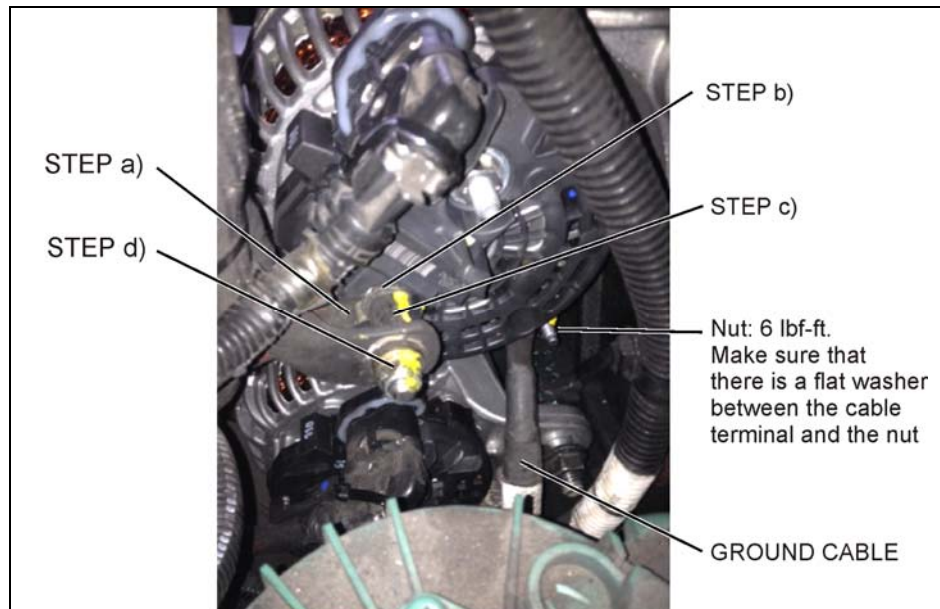

FIGURE 8 : STEP 12 a, b, c, d
- a) Install jumper cable (a.k.a. positive cable) onto **B1+** stud terminal on upper alternator (figure 8).
- b) Place one new flat washer #5001341 against the jumper cable ring terminal (figure 8).
- c) Screw and tighten the adapter stud #564590 (torque: 10 lbf-ft) (figure 8) prior installing main battery cable (power cable).
- d) Fit the main battery cable onto adaptor stud, place one new flat washer #5001341 against the battery cable terminal and screw a new nut #5001787 (nut torque: 10 lbf-ft) (figure 8).
13. Fit the ground cable onto the alternator ground stud, place one new flat washer #502573 against the ground cable terminal and screw a new nut #5001182 (nut torque: 6 lbf-ft) (figure 8).